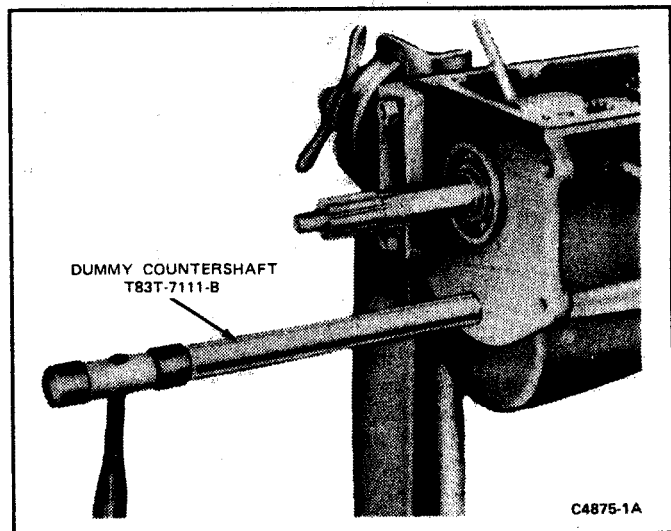

FIG. 10 Removing Countershaft
16. Use the Dummy Countershaft T83T-7111-B shown in Fig. 10 to drive out the countershaft (from the front). **Keep the dummy shaft in contact with the countershaft to avoid dropping the rollers. The dummy shaft should be 23.82-23.83 cm (9.379-9.380 inches) long and 2.878-2.882 cm (1.133-1.135 inches) in diameter.** Remove the countershaft cluster gear. Make sure the front and rear thrust washers are removed from the case. Be careful not to lose any rollers.